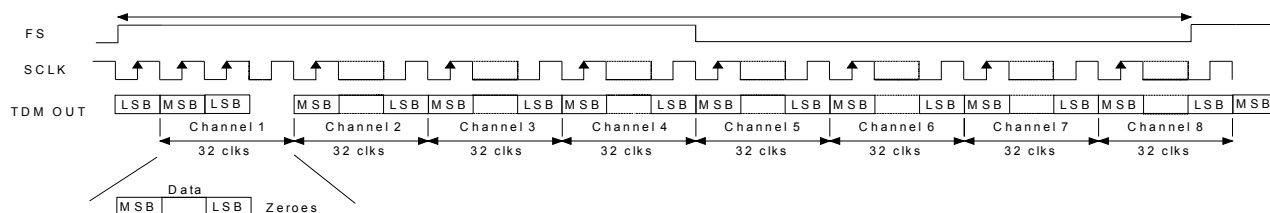

Figure 12. TDM Format
In TDM Mode, all eight channels of audio data are serially clocked out during a single Frame Sync (FS) cycle, as shown in Figure 12. The rising edge of FS signifies the start of a new TDM frame cycle. Each channel slot occupies 32 SCLK cycles, with the data left justified and with MSB first. TDM output data should be latched on the rising edge of SCLK within time specified under “Serial Audio Interface - TDM Timing” section on page 16. The TDM data output port resides on the SDOUT1 pin. The TDM output pin is complimentary TDM data. All SDOUT pins will remain active during TDM Mode. Refer to Section 4.11 “Optimizing Performance in TDM Mode” on page 29 for critical system design information.